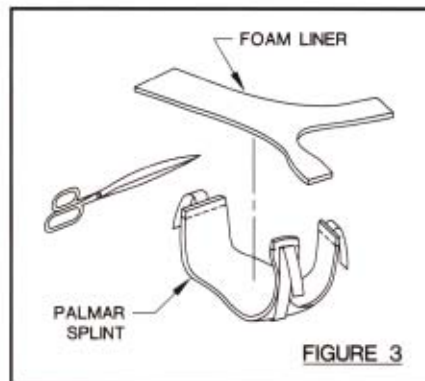

FIGURE 3
- 2 Trim selected palmar splint to fit patient. Avoid cutting straps see **Figure 3**.
- 3 Apply foam liner to palmar splint if indicated see **Figure 3**.